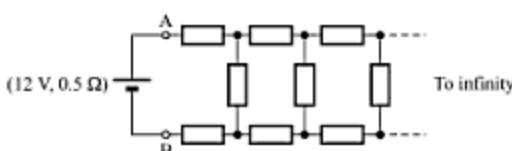

Fig. 2.39
13. Calculate the current drawn from a 12-V supply with internal resistance 0.5Ω by the infinite ladder network, each resistance being 1 ohm, in Fig. 2.39. [Ans. 3.71 A]